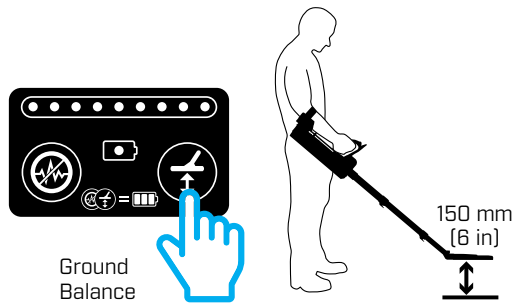

Figure 16: Ground Balance procedure
- a. Press and release the Ground Balance button. Lower the coil directly to the ground then lift the coil up again 150 mm (6 in). Refer to Figure 16.